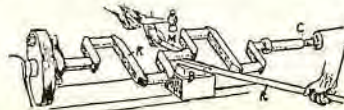

Fig. 33
Figs. 33, 34. Straightening slightly bent crankshafts where an arbor or straightening press is not available: There are few repair men who will undertake to straighten a bent crankshaft, and by many it is claimed to be impossible to make a lasting repair to a shaft which is out of true. However, as the repair man is occasionally called upon to "fix it up," and a straightening press is not at hand, one means employed is shown.
The shaft (K) (Fig. 33) is fixed between the centers (C) of the lathe; blocks (B) are placed upon the lathe-bed for a fulcrum, and a bar of iron (R) or preferably of wood, is used as a lever. If an iron bar is employed, a piece of brass, wood, or lead should be placed between it and the bearing surface of the shaft for protection.